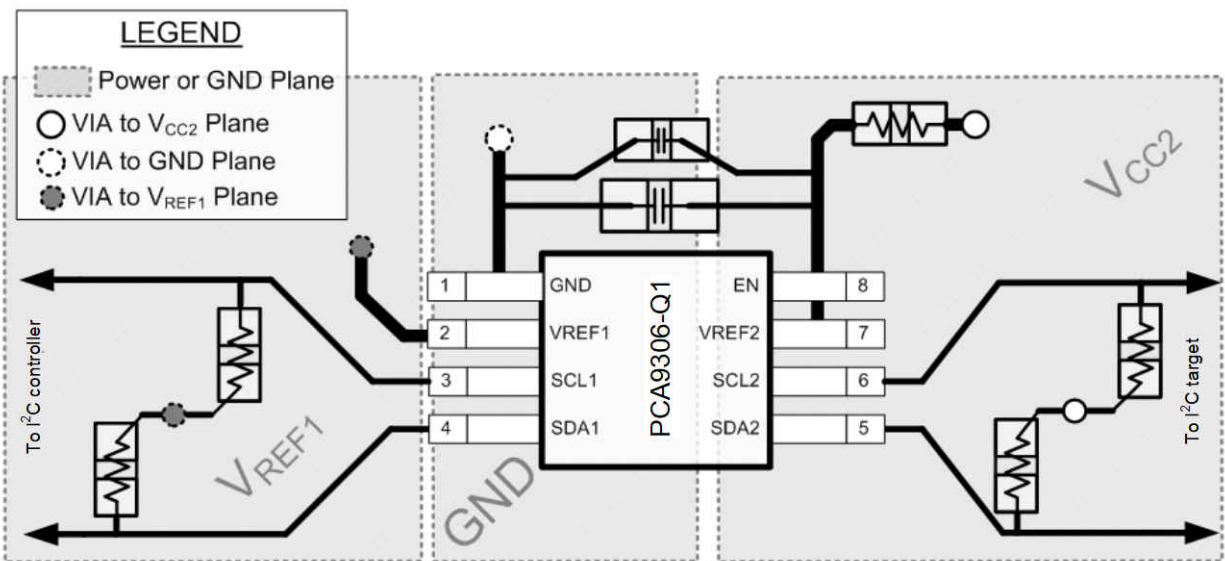

图 12-1. PCA9306-Q1 Layout Example
In all PCB layouts, it is a best practice to avoid right angles in signal traces, to fan out signal traces away from each other upon leaving the vicinity of an integrated circuit (IC), and to use thicker trace widths to carry higher amounts of current that commonly pass through power and ground traces. The 100-pF filter capacitor must be placed as close to VREF2 as possible. A larger decoupling capacitor can also be used, but a longer time constant of two capacitors and the 200-k $\Omega$  resistor results in longer turnon and turnoff times for the PCA9306-Q1 device. These best practices are shown in 图 12-1.
For the layout example provided in 图 12-1, it would be possible to fabricate a PCB with only two layers by using the top layer for signal routing and the bottom layer as a split plane for power (VCC) and ground (GND). However, a four-layer board is preferable for boards with higher-density signal routing. On a four-layer PCB, it is common to route signals on the top and bottom layer, dedicate one internal layer to a ground plane, and dedicate the other internal layer to a power plane. In a board layout using planes or split planes for power and ground, vias are placed directly next to the surface-mount component pad, which must attach to VCC or GND, and the via is connected electrically to the internal layer or the other side of the board. Vias are also used when a signal trace must be routed to the opposite side of the board, but this technique is not demonstrated in 图 12-1.